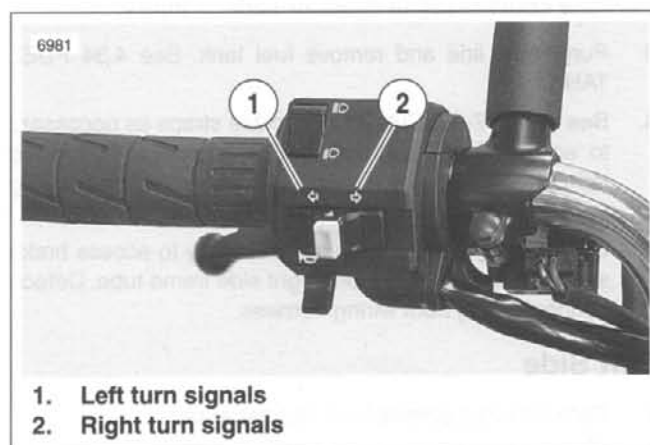

Figure 7-51. Turn Signal Controls
- b. See Figure 7-51. Activate left turn signals using switch on left handlebar. Front and rear left turn signals must flash.